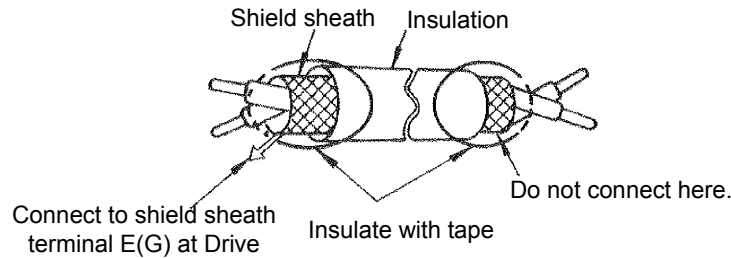

Figure 2.7 Preparing the Termination of Shielded Twisted-pair Cables
4. Use twisted-pair or shielded twisted-pair cables for control circuits to prevent operating faults. Prepare cable ends as shown in Figure 2.7.